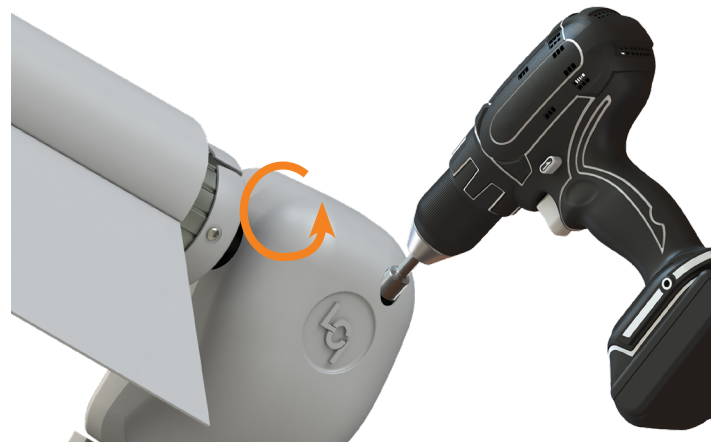

Fig.20
2. Using a 7/16" socket and cordless or electric drill or screw gun, spin the manual override nut counterclockwise to retract the awning (**Fig.20**).